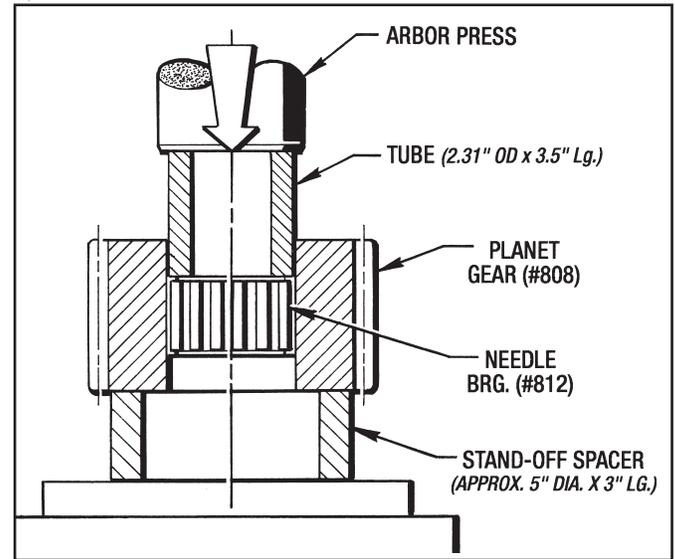

Figure 7.13 - Removing Needle Bearing (#812)
3. The (2) Spacers (#813) can be removed from the Planet Gear (#818) by hand but the Needle Bearing (#812) will have to be pressed out with an arbor press and appropriate size tube. (See Figure 7.13)